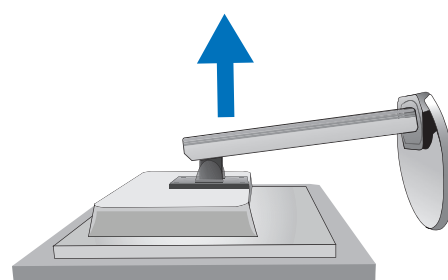

Figure S.2
- Remove the stand (**Figure S.2**).